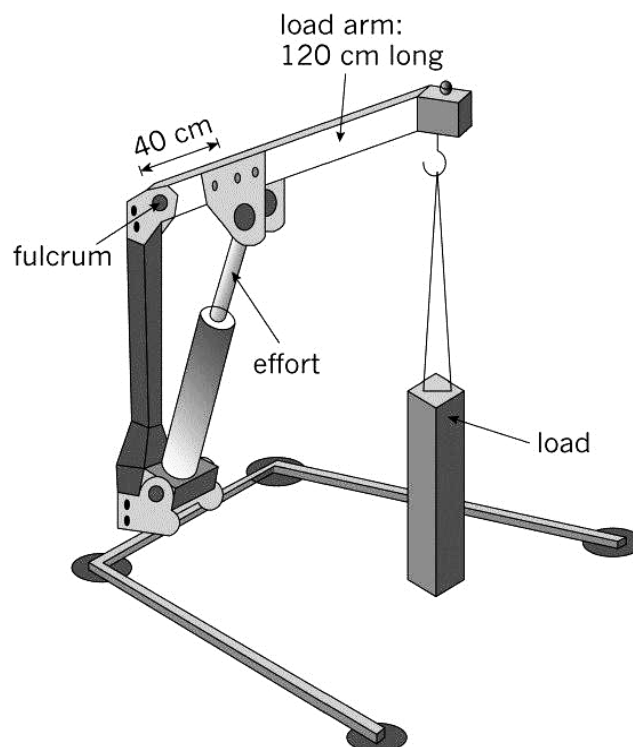

FIGURE 1: A LIFTING SYSTEM
3.3.3 Study the lifting system in FIGURE 1 below. It uses a hydraulic cylinder as its input force. It is a system that could be used for lifting an engine out of a motor car. The lifting lever at the top is a third-class lever.